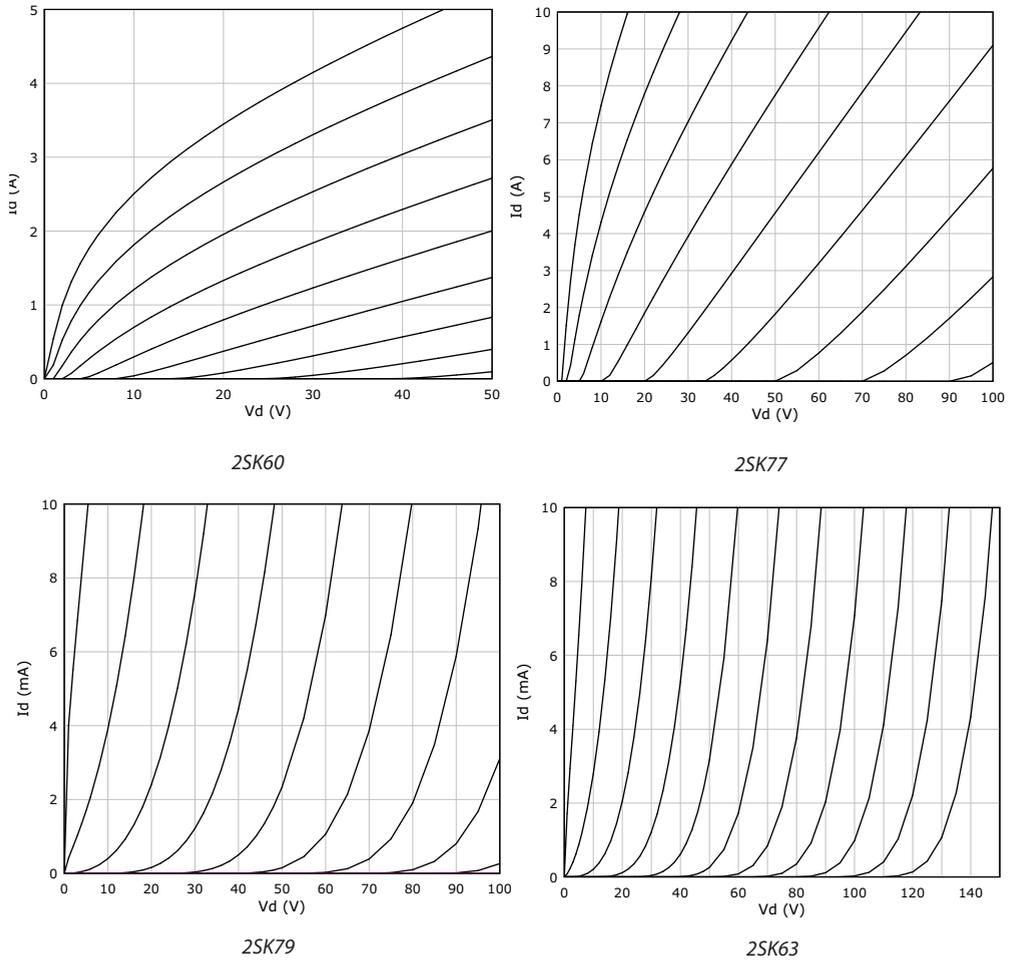

Figure 11 Modeling application output curves for several SIT devices.
**Figure 11** shows a few additional outputs from the modeling application for several devices, along with parameter values (**Table 1**) which you may use as a starting basis for your own models:
Table 1 Suitable parameter start values for the modeling results from figure 11.